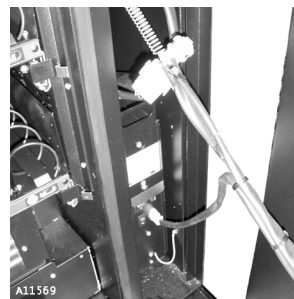

Figure 4a. Door Harness
2. **Disconnect door harnesses** - Loosen the nut and bolt attaching the harness retaining spring to the door harness and unhook the spring from the harness. Unplug the door harness. Unplug the door glass heater harness from the power panel. (Figure 4a).
8. **Connect door harnesses** - Plug the door glass heater harness to the power panel. Plug the door harness to the cabinet harness. Hook the harness retaining spring to the bolt and tighten the nut. See Figure 4a.